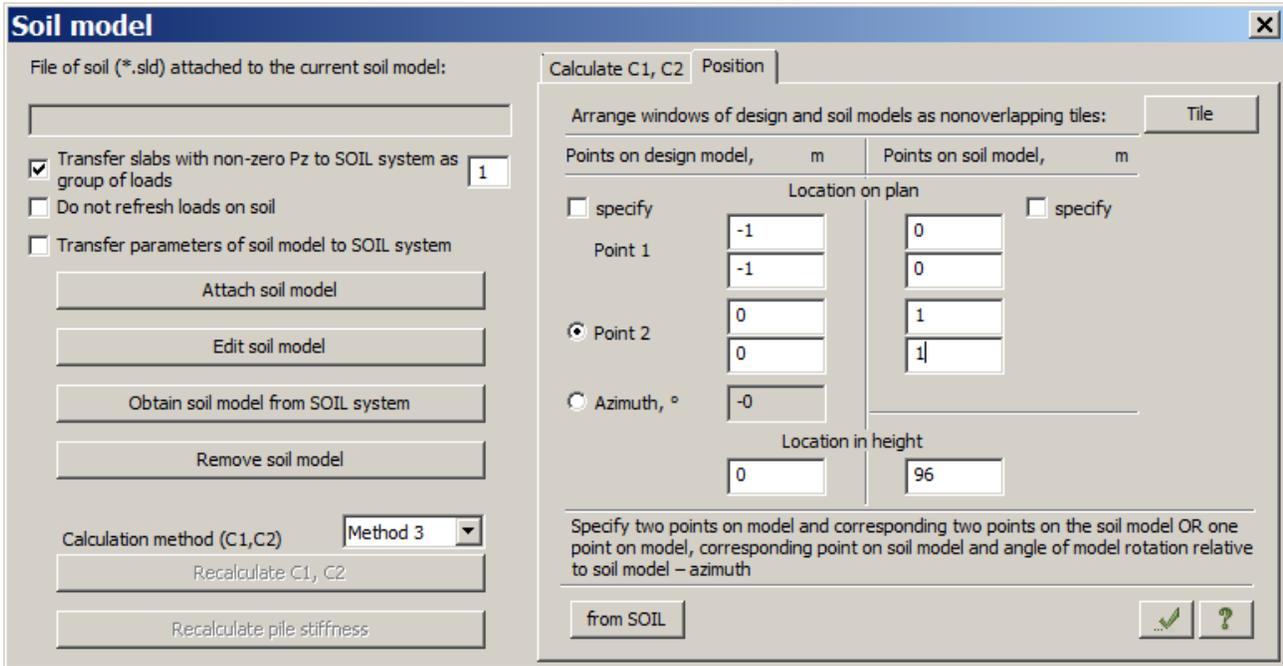

Figure 22.12 **Soil model** dialog box
- ⇒ In the **Soil model** dialog box (see Fig.22.12), click **Position** tab and define the following data: